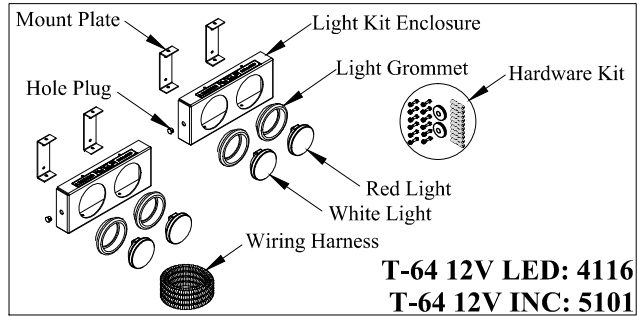

Figure 2: Part Identification: 2-light Kit.
- 2-light kit (Figure 2, Table 2)